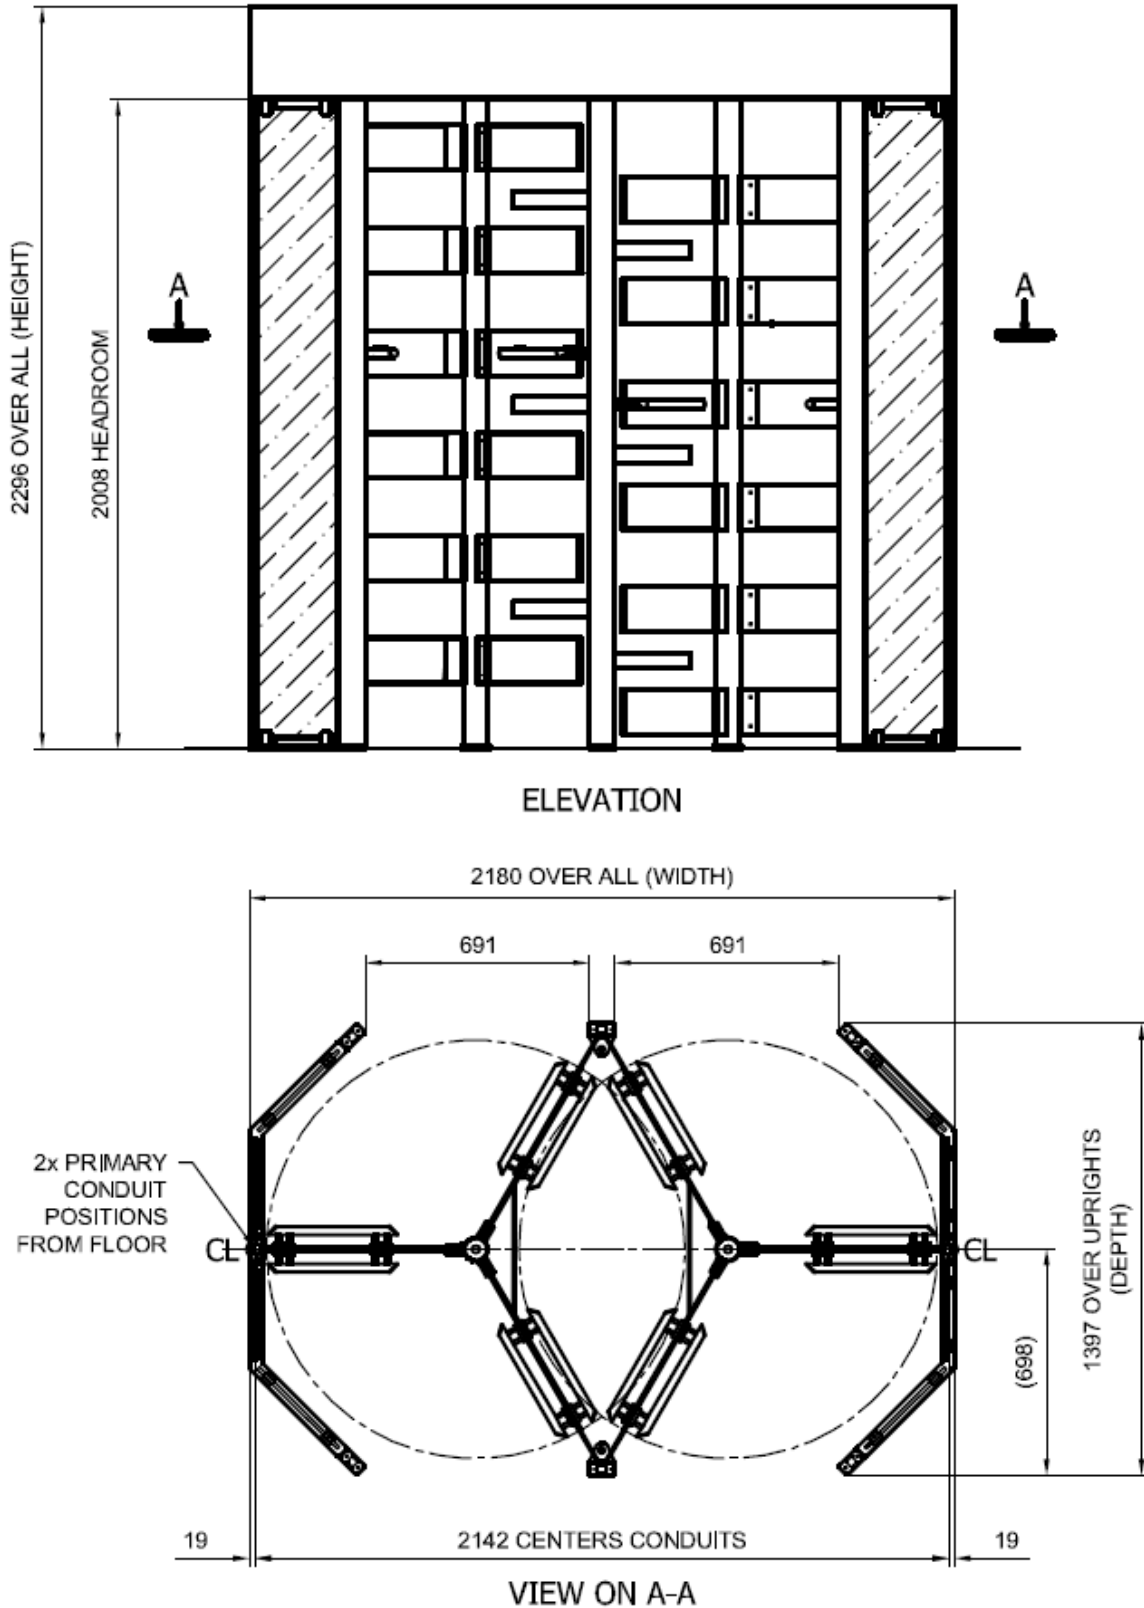
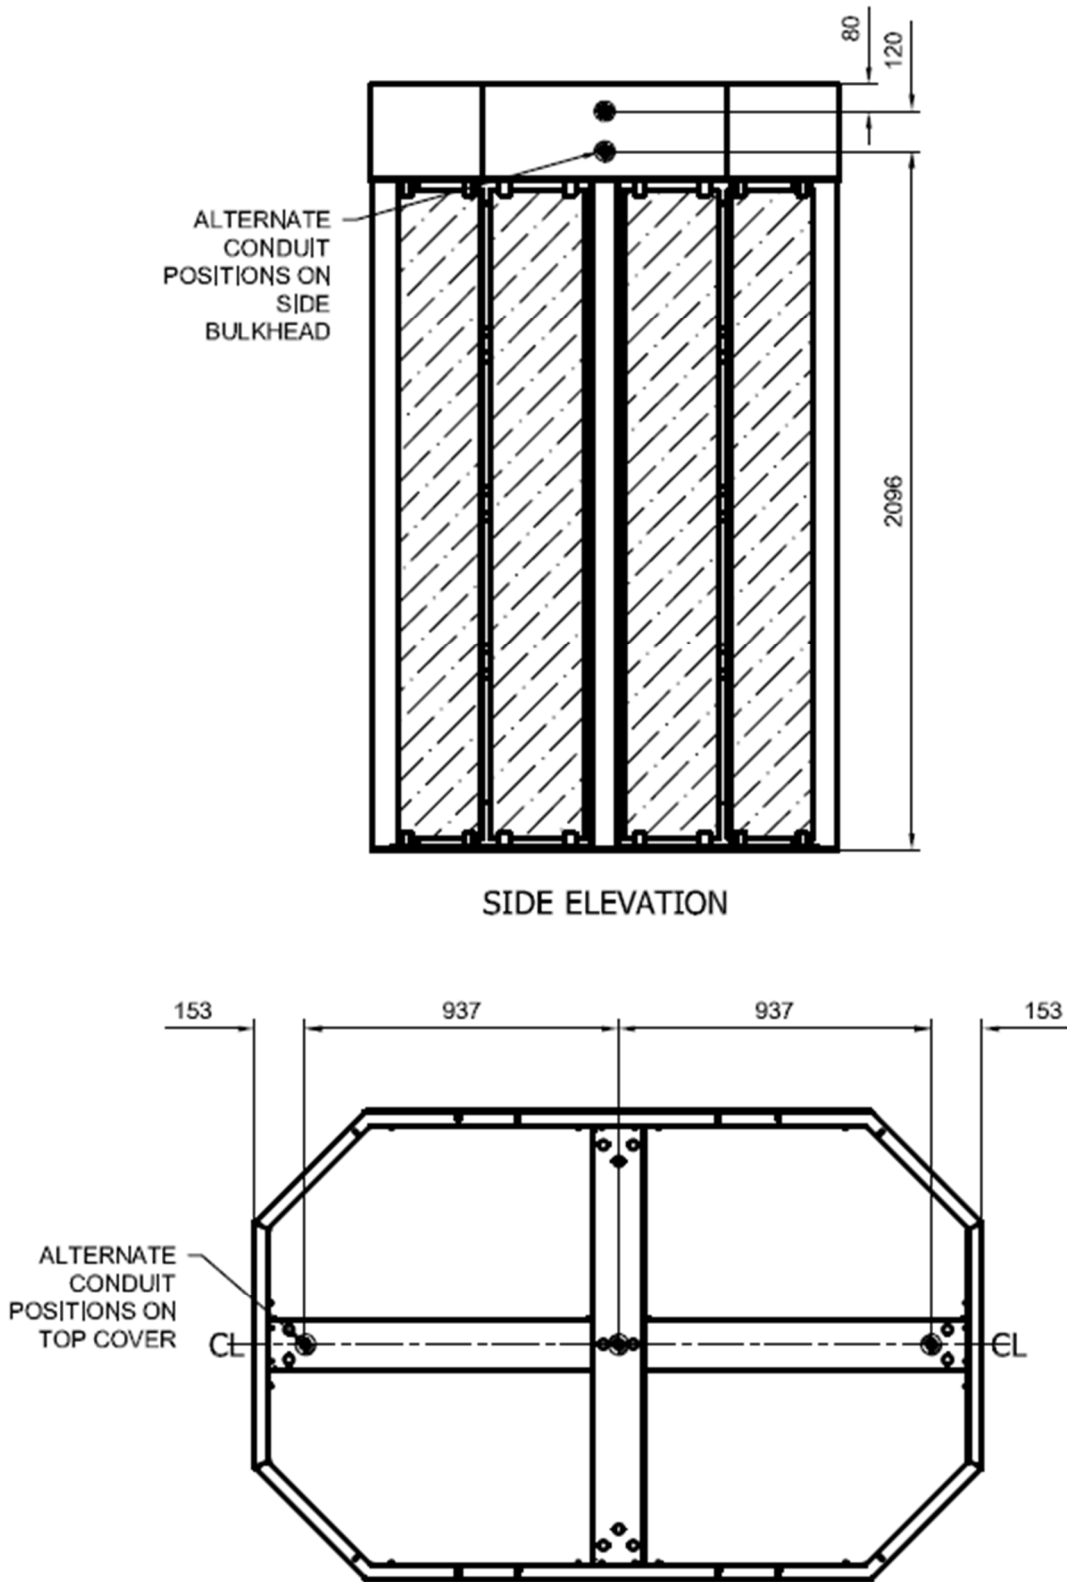

Figure 6: Layout & Conduits of Octagonal Double Turnstile
Figure 7: Double Turnstile Alternate Conduits
- 6.4. The Core Positions of the Double Octagonal Glass Turnstile are located primarily at the base, 1360mm apart, shown on **Figure 6: Layout & Conduits of Octagonal Double Turnstile**. There are alternative conduit entry points on the side top bulkhead and down into the top cavity from the cover plate which is shown on **Figure 7: Double Turnstile Alternate Conduits**.